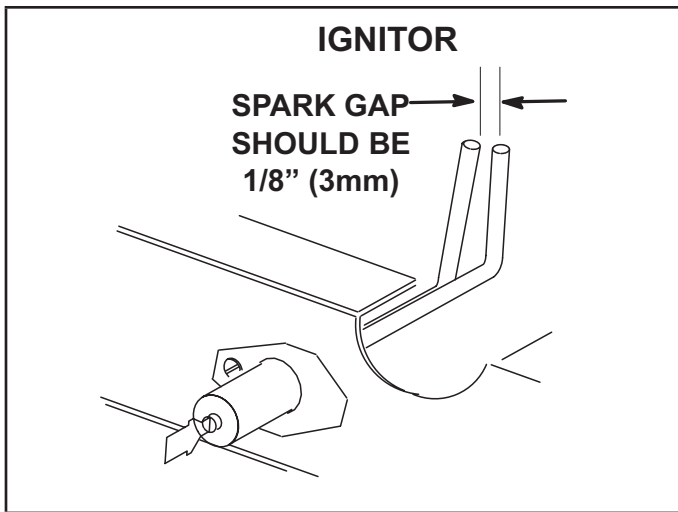

FIGURE 31
- 4 - Locate the ignitor under the left burners. Check ignitor spark gap with appropriately sized twist drills or feeler gauges. See FIGURE 31.
- 4 - Check the alignment of the ignitor and the sensor as shown in FIGURE 31 and TABLE 13.